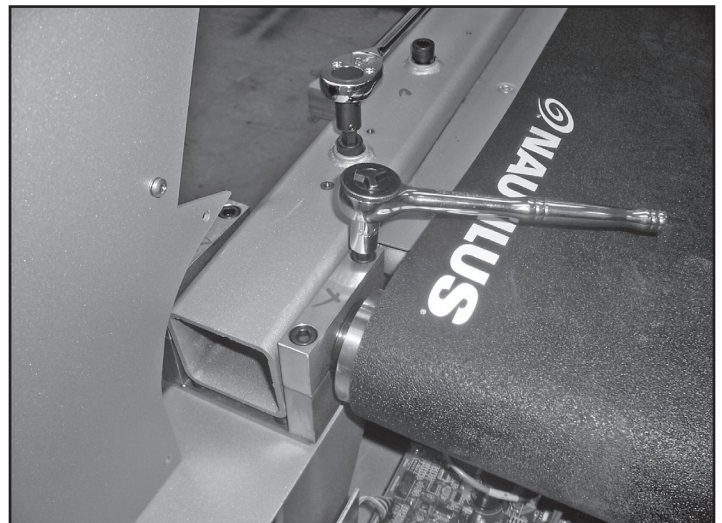

Figure 6: Remove treadle bolts & pivot bolts; 4 bolts per side.
- 8-11:** There are 2 treadle bolts and 4 treadle pivot bolts on each side. Remove these 6 bolts on one side, and loosen the 2 treadle bolts and remove the 4 pivot bolts using a 3/8 Allen and socket wrench (see Figure 6).